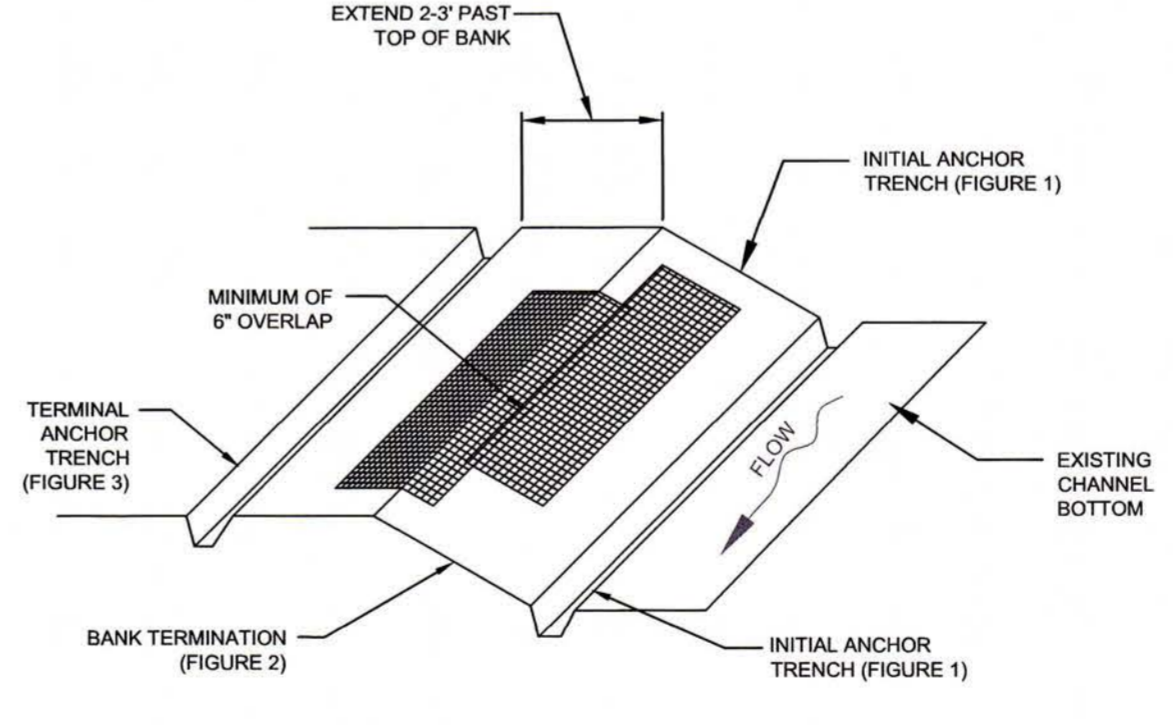

FIGURE 4 TRENCH AND CHECK SLOT LAYOUT
- EXTEND MAT 2 TO 3 FEET OVER CREST OF SLOPE AND EXCAVATE A 6" x 6" TERMINAL ANCHOR TRENCH. SEE FIGURE 4.